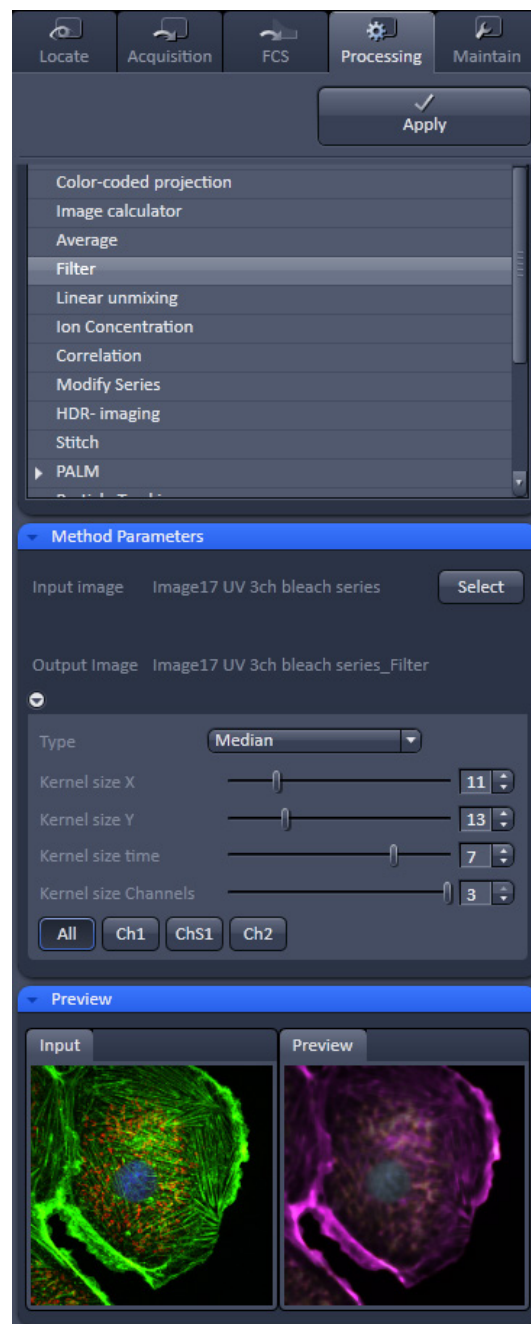

Fig. 113 Filter window
- To open the **Filter Processing** tool, select it from the list in the **Processing** main tab (Fig. 113).